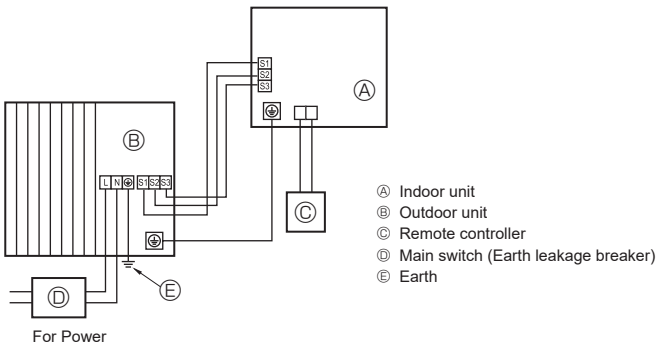
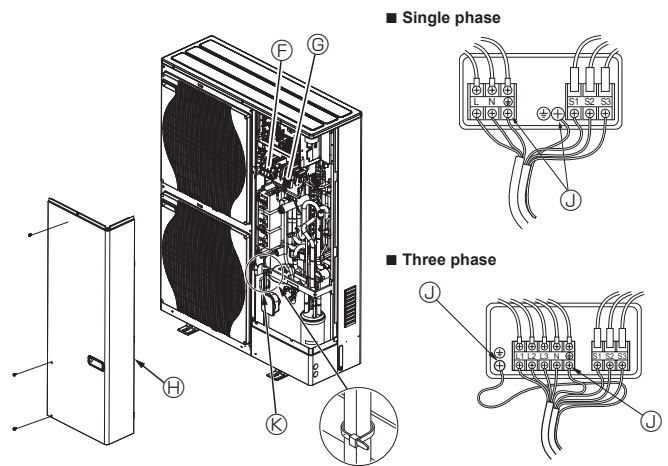

Fig. 5-1
Fig. 5-2
### 5.1. Outdoor unit (Fig. 5-1, Fig. 5-2)
- ① Remove the service panel.
- ② Wire the cables referring to the Fig. 5-1 and the Fig. 5-2.